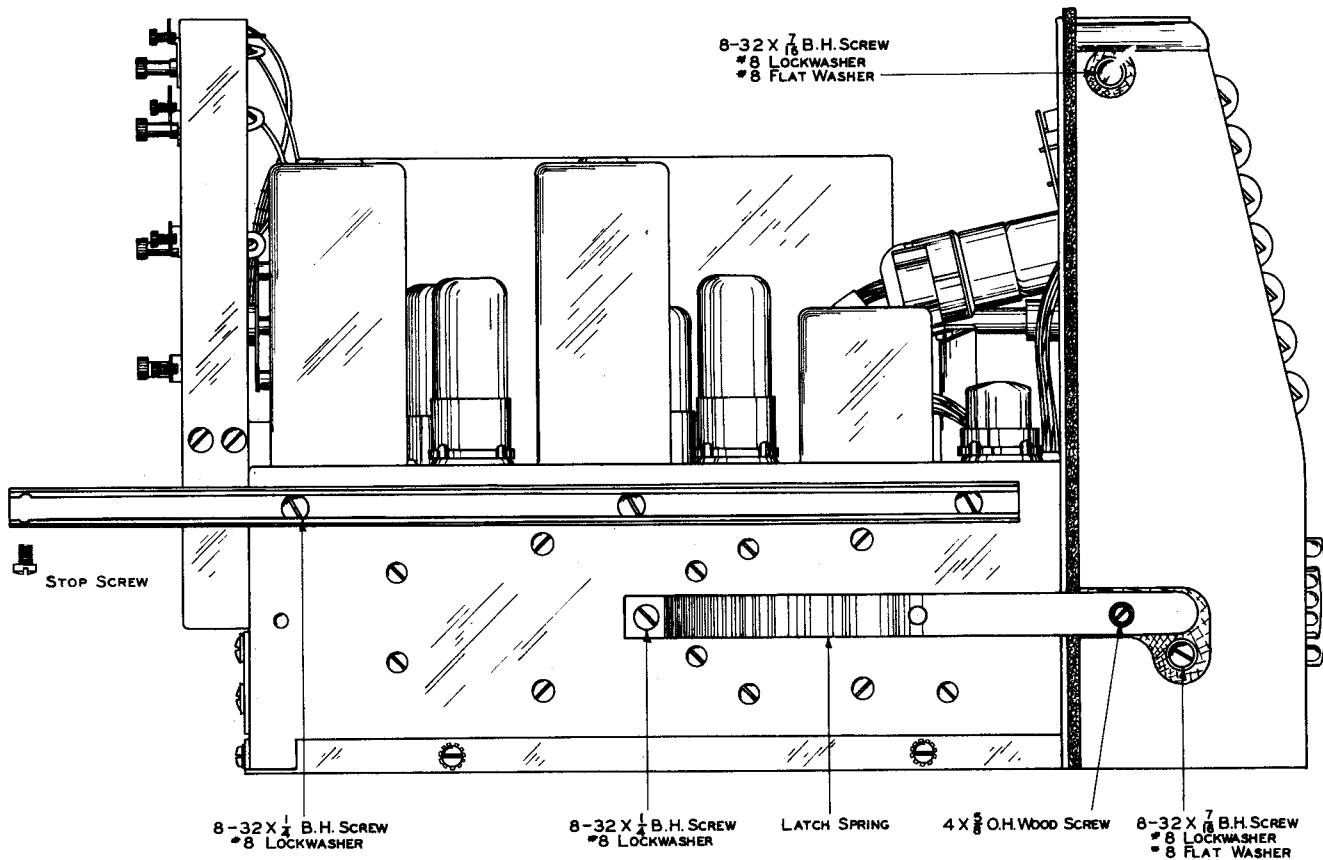

Figure 1 Slide Rail and Panel Mounting Detail
1. Mount the front panel on the receiver as shown in Fig. 1 using the hardware furnished.
2. Next mount the latch springs on the sides of the receiver chassis as shown in Figure 1. The retaining screw which is used to center the latch spring in the slot on the side of the panel should be screwed in far enough to bring the latch spring flush with the outside of the panel. It may be necessary to adjust the screw on the latch spring further in to make the latch catch smoothly when the set is pulled out. However, DO NOT leave the latch adjustment screws sticking out beyond the sides of the panel as they may catch in the latch spring plate when the set is pushed into the cabinet.
3. Mount the slide rails on the sides of the receiver chassis as shown in Figure 1 using the hardware provided for this purpose. Remove the stop screws from the ends of the rails as shown.